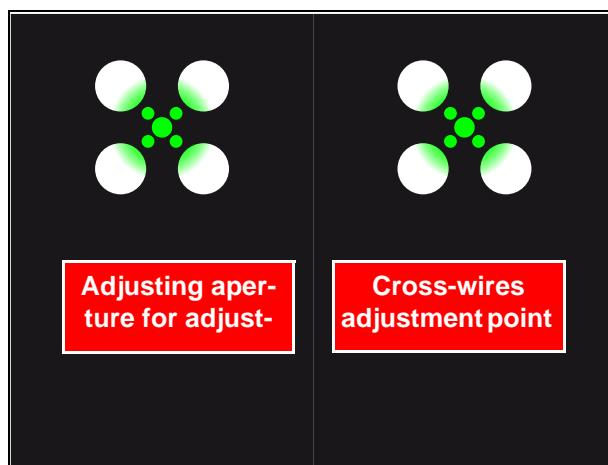

Figure 6.29 Beam adjustment OK
25. If no more deviations in the image can be determined between A and B, the adjustment is okay (see figure 6.29, page 6-24).